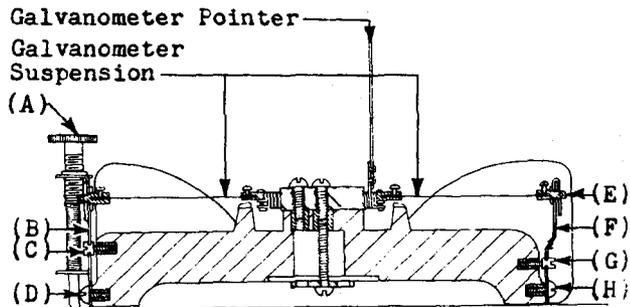
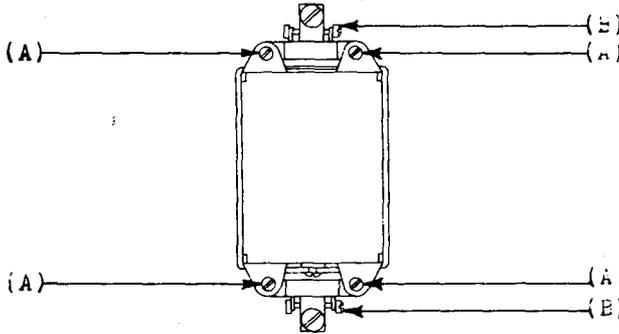

Fig. 17 - Cross Section of Galvanometer
Fig. 18 - Galvanometer Coil Assembly
(3) Coil Position: Fig. 17 - If the galvanometer coil is not vertically central with respect to the core, the coil may be lowered by turning the tension screw (C) in a clockwise direction and screw (G) in a counter-clockwise direction, using the size 3 watch-makers screw-driver. The screws should be turned in the reverse direction to raise the coil. If the coil is not horizontally central with respect to the core use the 3-1/2 inch cabinet screw-driver and loosen (very slightly) the screws (D) and (H) which hold the flat springs (B) and (F) and shift the position of these flat springs sufficiently to bring the coil into the desired position. Tighten the screws, being careful not to let this affect the position of the flat springs. If the front edge of the coil is not approximately flush with the front face of the core, loosen (very slightly) the screws (D) and (H) and shift the zero adjusting screw (A) and the flat springs (B) and (F) either backward or forward as required. Retighten the screws, being careful not to let this affect the position of the flat springs.
(4) Suspension Tension: Fig. 17 - The galvanometer suspension tension should be such that there is very little sag, if any, when the galvanometer is laid in a horizontal position. The tension is increased by using the size 3 watchmakers screw-driver and turning the tension screws (C) and (G) in a counter-clockwise direction and is decreased by turning the screws in a clockwise direction. A very fine adjustment is required as one-eighth of a turn causes a large change in tension when nearly taut. Care should be taken that the tension put on the system is not too great as this will break the suspension strip. If the suspension tension is not correct the pointer may vibrate excessively when the galvanometer system is in place in the controller. Usually the remedy is to increase the tension slightly.
(5) Suspension Torsion: Fig. 17 - If the pointer does not come to rest at right angles to the face of the core when the galvanometer is held in a vertical position proceed as follows: Set the zero adjusting screw (A) near its center of travel. Set the galvanometer on a flat surface so the suspensions are approximately vertical. If the pointer is not approximately at right angles to the face of the core after it comes to rest, turn the suspension binding post by pin (E) until it comes to rest in this position.
(6) Balance: Tilt the galvanometer 10 or 15 degrees in all directions. If this does not cause the pointer to move, the galvanometer shall be considered as sufficiently balanced. If tilting the galvanometer 10 or 15 degrees causes the pointer to move, tests shall be made for front and rear and lateral balance.
(7) Front and Rear Balance: Hold the galvanometer with the suspensions horizontal and the pointer to the left or right. If the tip of the pointer falls below or rises above the horizontal, the galvanometer system is not balanced front to rear. Hold the galvanometer with the flat back of the moulding against the palm of one hand. Extend the thumb and fingers around the moulding and hold the coil. If the pointer tip moved downward during the test, turn each screw (A) (Fig. 18) an equal amount in a clockwise direction, using the size 5 watchmakers screw-driver. If the pointer tip moved upward during the test, turn each screw (A) Fig. 18 an equal amount in a counter-clockwise direction. Test and repeat until a balance is obtained.
(8) Lateral Balance: Hold the galvanometer with the suspensions horizontal and the pointer downward. If the pointer moves to either side of the vertical the left and right sides of the galvanometer system are not balanced. Hold the galvanometer with the flat back of the moulding against the palm of one hand. Extend the thumb and fingers around the moulding and hold the coil. If the pointer moved to one side of the vertical during the test, the galvanometer system is heavier on the opposite side. If the galvanometer system is heavier on the side where screw heads (B) are located, turn each of these screws an equal amount in a clockwise direction, using the size 5 watchmakers screw-driver. If the galvanometer system is heavier on the opposite side turn each screw (B) an equal amount in a counter-clockwise direction. Test and repeat until a balance is obtained.
(11) If the horizontal planes of the upper and lower faces of the pointer are not parallel to the horizontal planes of the stationary clamp and the rocker arm clamping wires, this may cause the pointer to deflect or to vibrate as the rocker arm leaves it. To correct replace the pointer.
(12) If the pointer sticks to the stationary clamp, to the rocker arm clamping wires or to the setting levers, the cause usually is dirt and oil on the pointer and on the parts which the pointer touches. To remedy this, carefully clean the different parts as covered in procedure 3.01(3).
(13) Zero Adjustment: Release the armature of relay BB and then release the armature of relay MJ. Adjust the zero adjusting screw until three successive revolutions of the sweep cams will not cause the clutch arm to move. Since the galvanometer is very sensitive to air currents it may be necessary to make several adjustments before the correct result is obtained, closing the controller case after each trial. If the pointer cannot be brought to the zero position in this way, it will be necessary to remove the galvanometer and to turn the lower suspension binding post by pin (E) (Fig. 17) so that when the galvanometer is re-mounted the final adjustment can be made by means of the zero adjusting screw (A). After this adjustment, remove galvanometer lead + from binding post 0 and clamp it under post +.